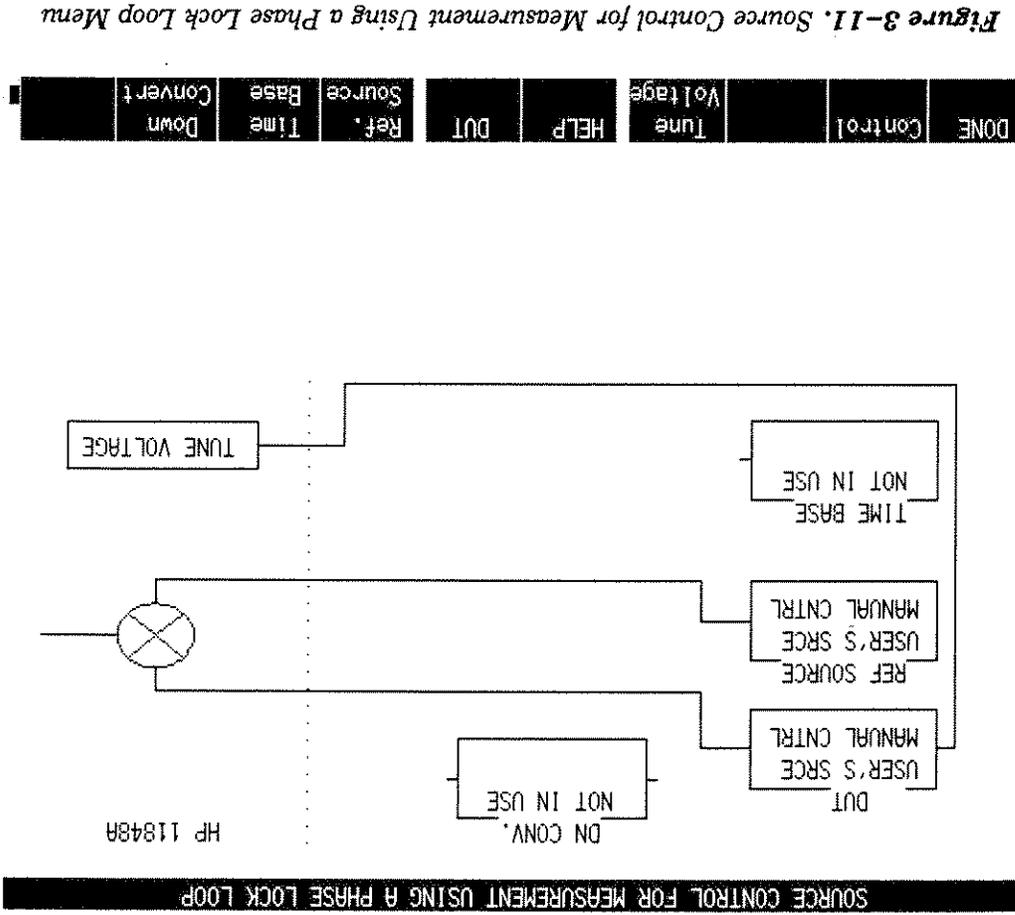

Figure 3-11. Source Control for Measurement Using a Phase Lock Loop Menu
9. On the HP 3048A press the **source control** softkey to obtain the Source Control for Measurement Using a Phase Lock Loop menu. Set the various devices in the system as shown in figure 3-11. When done, press the **DONE** softkey.